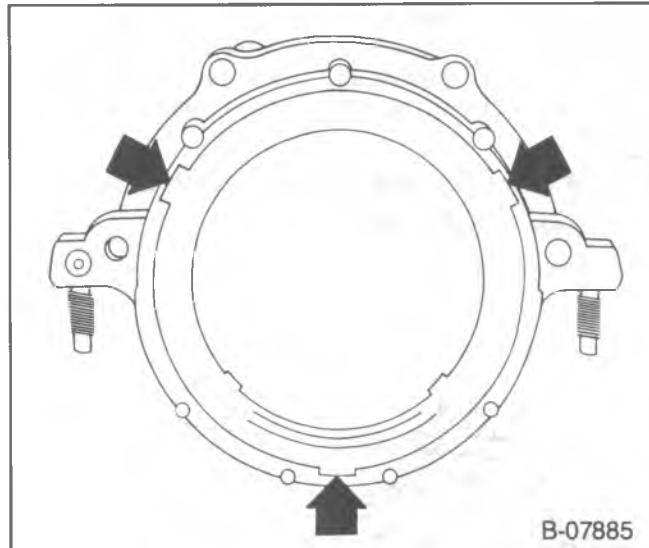

Figure 50—Seal Removal Notches
**Disassemble (Figure 50)**
- Rear crankshaft oil seal. Insert a screwdriver into the notches provided in the seal retainer and pry the seal out (figure 50).